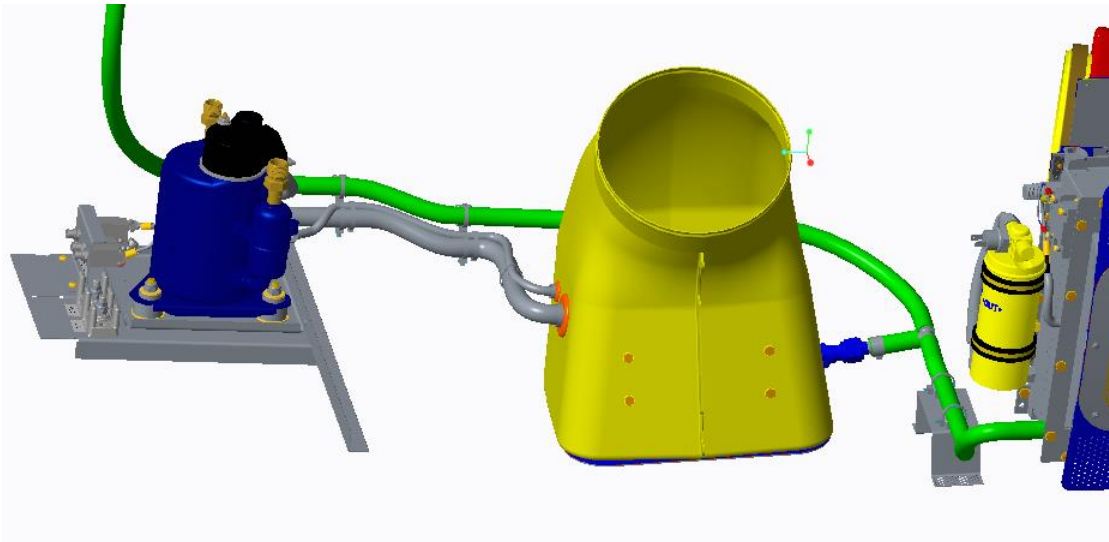

Figure 25 – Compressor Installation
- 2) Secure the Compressor to the Structure per View 3A and the notes on Sheet 3. Bond TM3S8-C tie mounts as required to direct the drain hoses and electrical wires to the proper connection. See Figure 25.